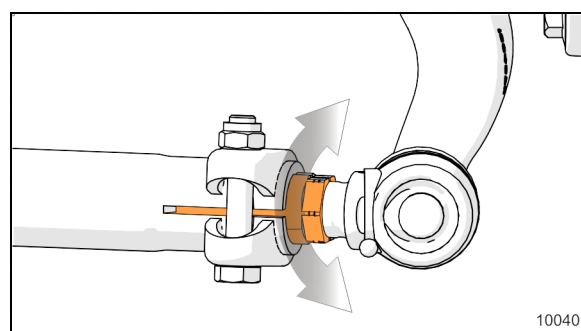

FIGURE 7: FINE ADJUSTER SLEEVE ON TIE ROD
- b. Turn the adjuster sleeve (Figure 7) until the specified toe-in measurement is obtained.